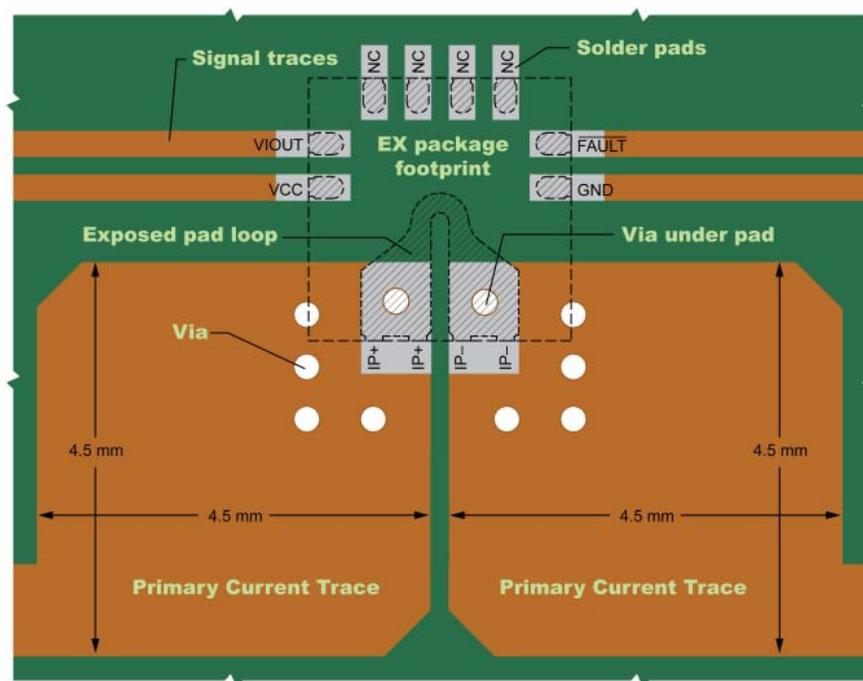
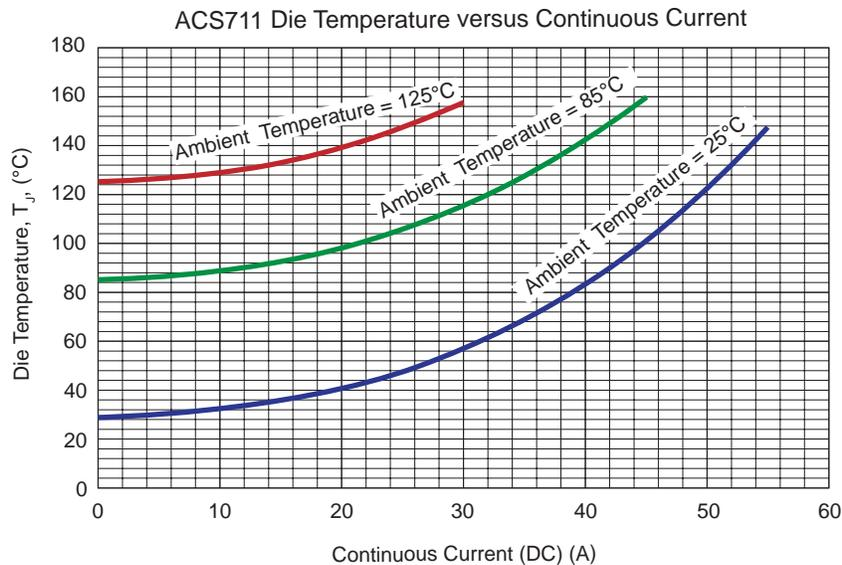

Figure 3. PCB Layout for QFN Current Sensor
Figure 4. QFN Current Sensor Linear Thermal Performance on PCB
through the Allegro package, conducting heat away from the device must be considered. Figure 3 illustrates an optimized PCB layout for the QFN package.
- Primary current leads should be connected to as much surface area of copper as is reasonably available. The two solder pads at the ends of the exposed pad loop should be placed directly on the current carrying copper trace to best conduct heat away from the package, and is clearly illustrated in figure 3.
- If possible, additional copper layers, or at least two layers, should be used for conducting the primary current. The layers should be connected using the arrangement of vias shown in figure 3 and placed close to the primary current leads of the QFN package.
By applying these features, it is possible to achieve the thermal performance shown in figure 4. The data was taken using a test demonstration board with a solder footprint similar to the one shown in figure 3, and using two layers of 4 oz. copper. The graph shows that at an ambient temperature of 85°C the sensor package can withstand 45 A continuous current before reaching the maximum recommended thermal junction (die) temperature of 165°C. With proper PCB design, the device can be safely used in 30 A continuous current applications up to 85°C ambient temperature with greater than 40°C of safety margin before reaching a die temperature of 165°C.